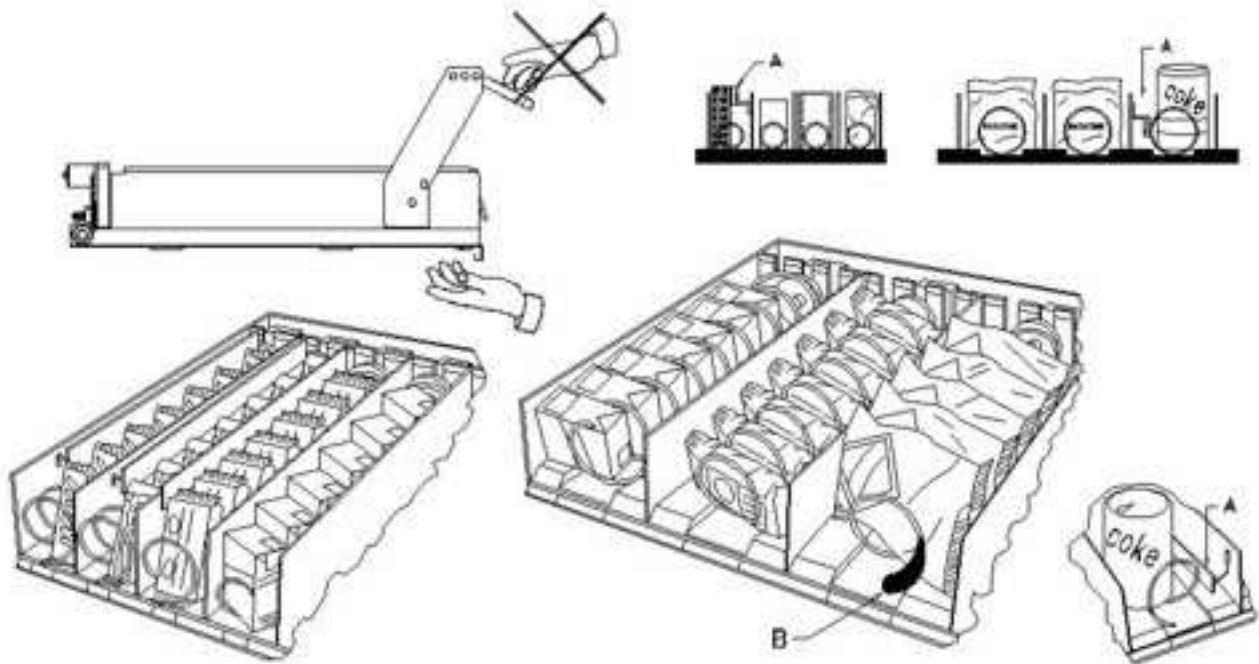

fig. 3
8.2 TRENnwÄNDE FÜR PRODUKTE IN DEN SCHUBLADEN (fig. 3)
8.3 AUSSTÖßER FÜR PRODUKTE (fig. 3)